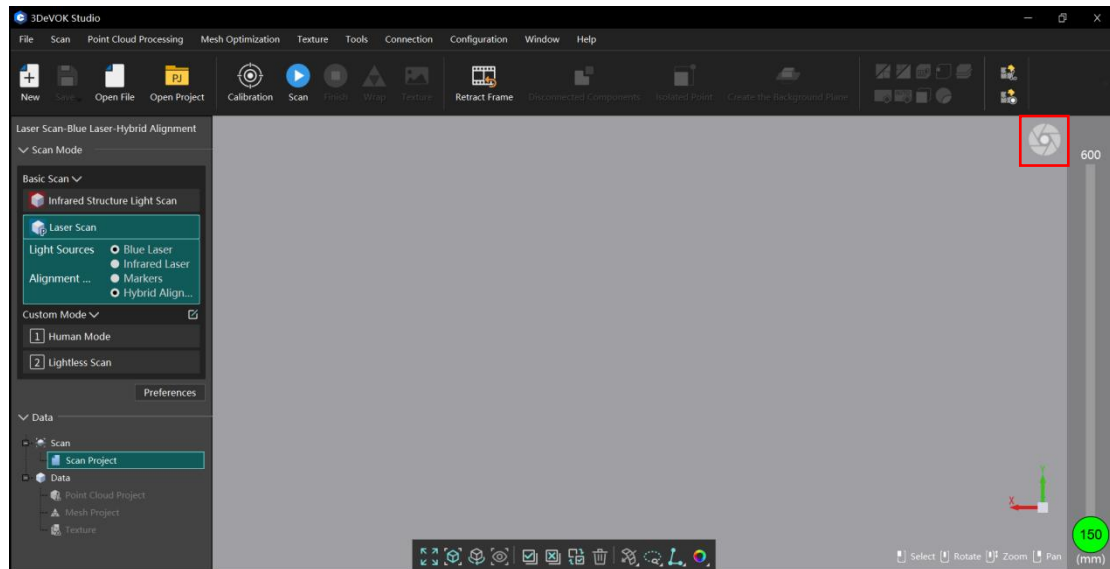

Figure 7-12 Camera Field of View
color camera fill light levels, and (4) color camera exposure values for comprehensive process control, which is shown in Figure 7-12.